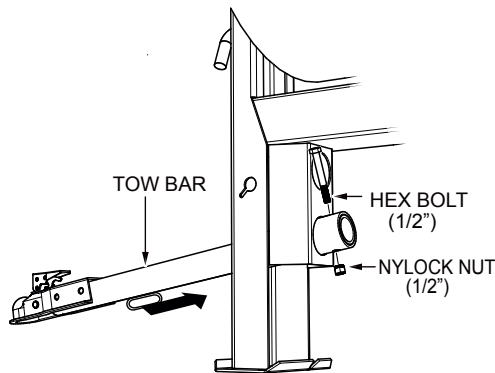

Figure 5. Inserting Tow Bar
1. Insert the tow bar through the round opening at the bottom of the mixer stand (Figure 5).
2. Align the hole on the tow bar with the hole on the mixer frame (Figure 5), and insert 1/2-inch bolt through tow bar and frame. Secure tow bar to frame with 1/2-inch nylock nut. Tighten to 40 ft.-lbs.